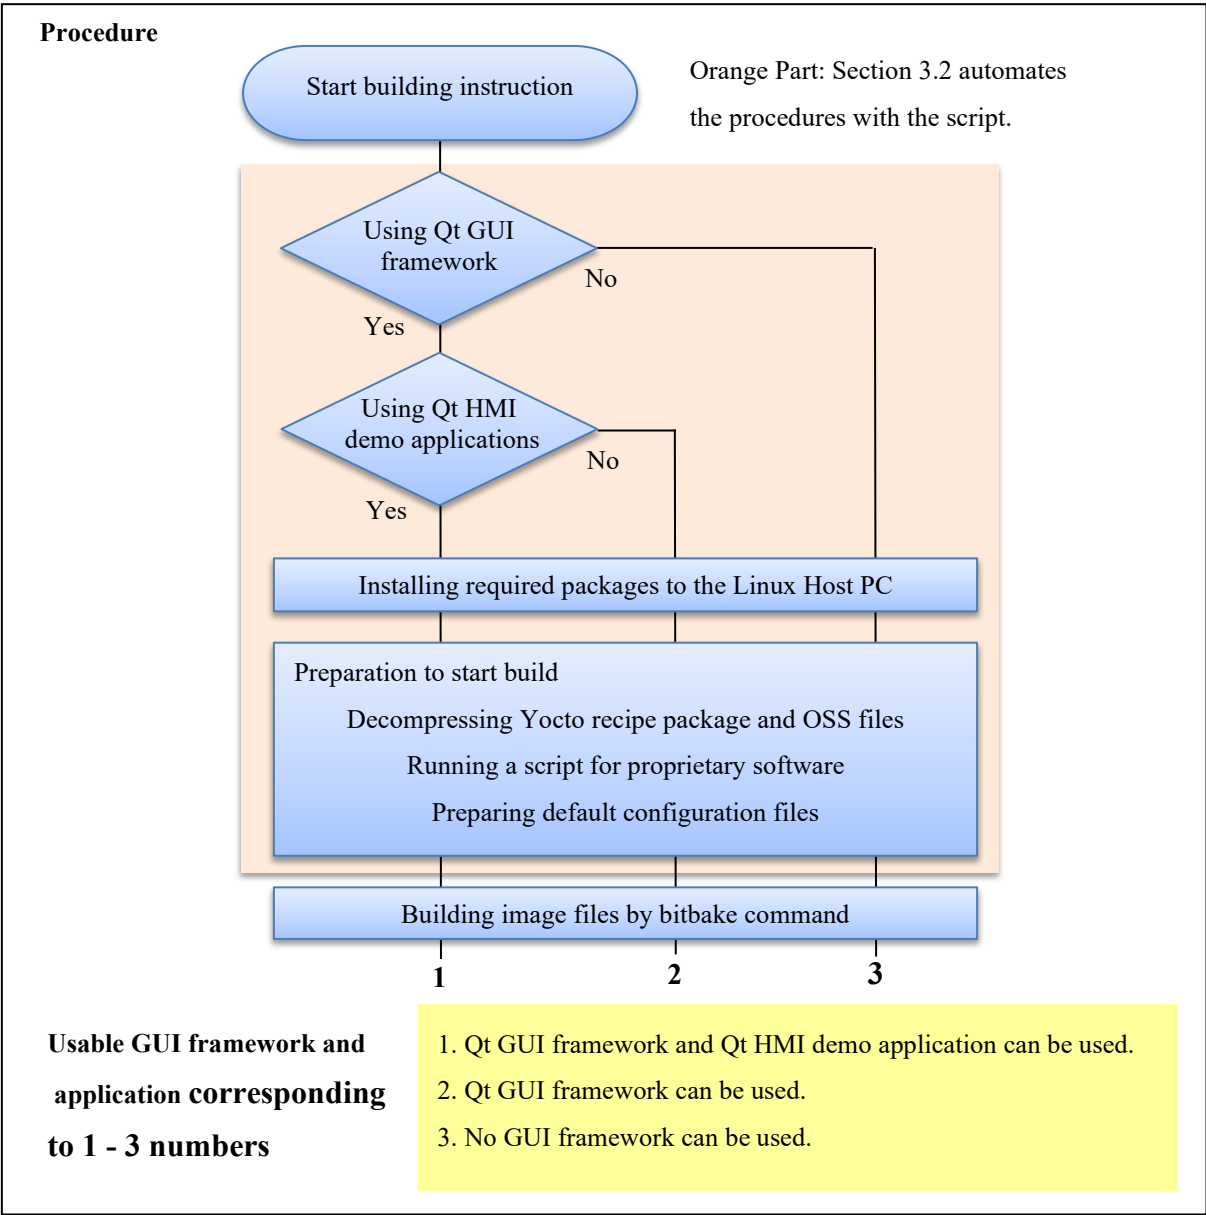

Figure 2. Building Outline
**Figure 2** shows a building outline of section 3.1 and 3.2. Once the building procedures are executed, some image files which names will depend on the target board name will be made. **Table 3** lists the names of the image files. Moreover, the GUI framework and the building procedures can be changed by a user’s choice. Because of that, please select a target board and a GUI framework, then run the commands from section 3.1 or 3.2.